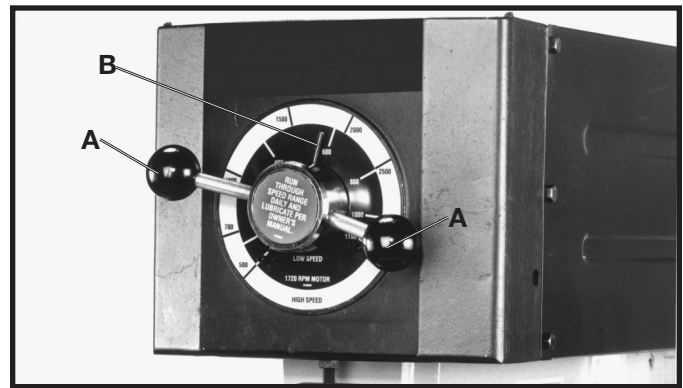

Fig. 28
DO NOT turn variable speed pilot wheel handles (A) Fig. 28, unless motor is running to avoid putting unnecessary strain on the drive belts and pulleys. The pilot wheel handles (A) are turned clockwise to increase speed and counterclockwise to decrease speed. When changing speeds, the pointer (B) will indicate the speed of the drill press.